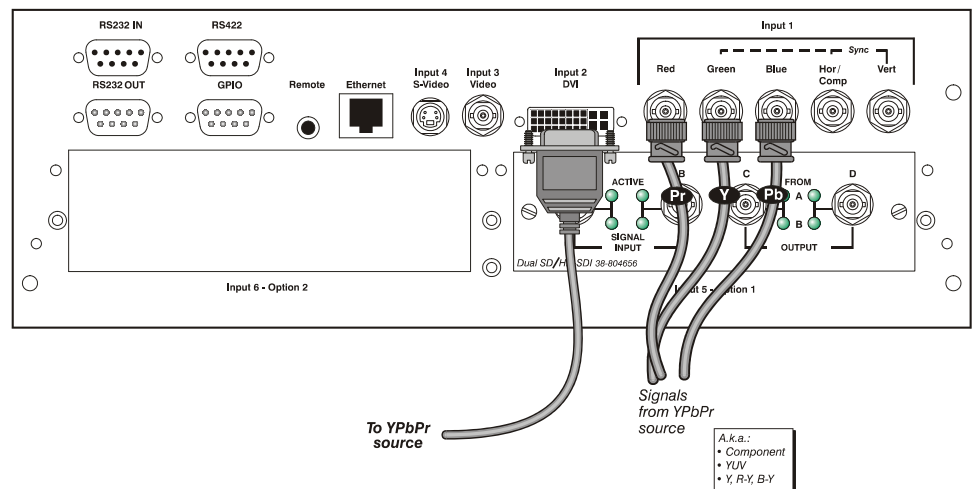

Figure 2.26. Connecting YPbPr
► Connect a YPbPr signal (a.k.a. *component video*) to **INPUT 1** or **INPUT 2** as shown in Figure 2.26.